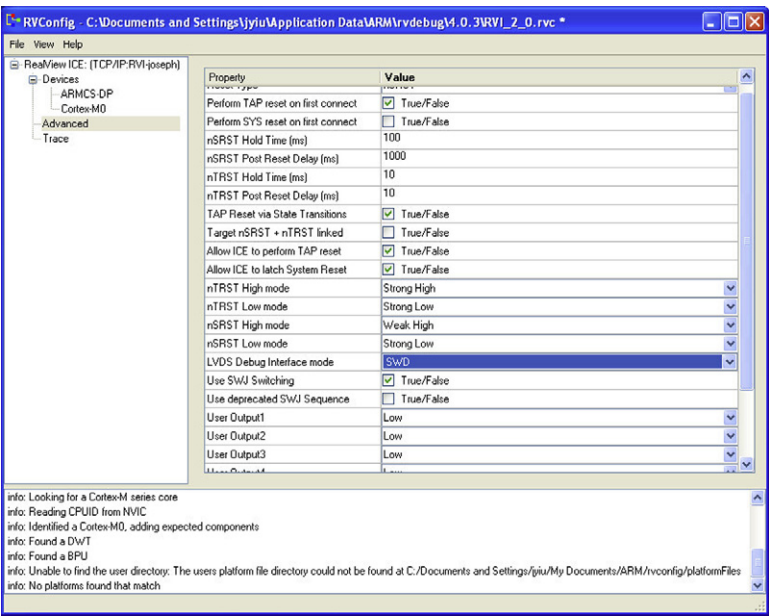

Figure 19.14:
- In the RVConfig window, select “Advanced” settings; you will then find the serial wire debug option (as shown in Figure 19.14).
- Select SWD for LVDS Debug Interface mode (Figure 19.14). The use of the SWJ switching sequence is not essential for most Cortex-M0 devices. However, it is essential for most Cortex-M3 devices because the debug access port in most of the Cortex-M3 devices supports both JTAG and serial wire debug protocol, and JTAG protocol is used by default.